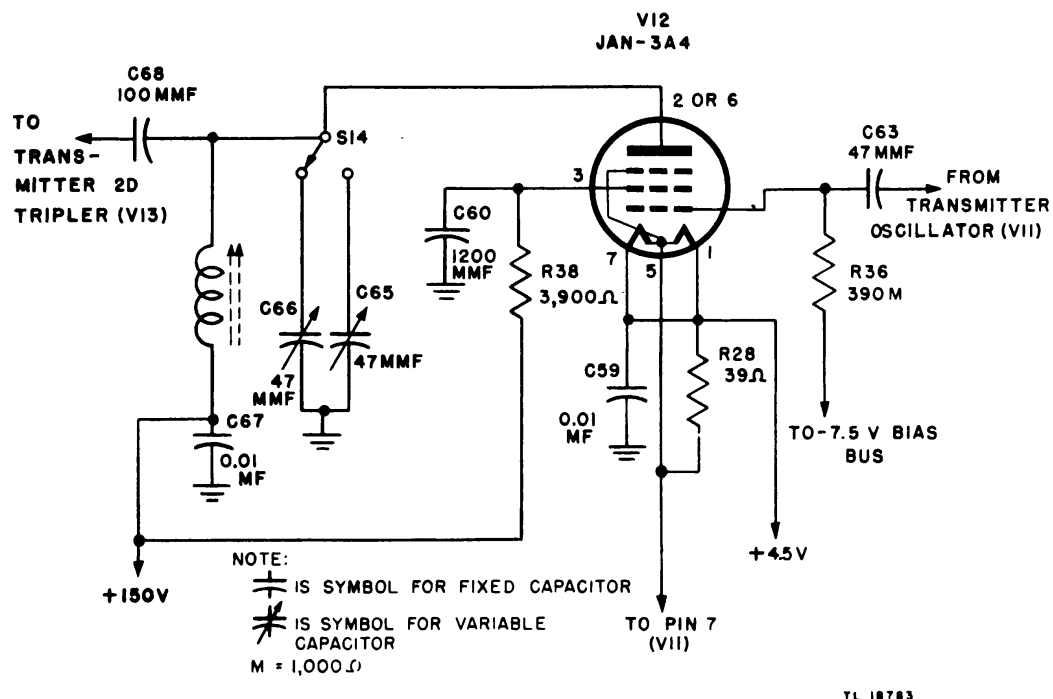

Figure 61. Transmitter first tripler.
a. The output from the transmitter oscillator is applied to the grid of Tube JAN-3A4, V12, through capacitor C63 (fig. 61). The grid is biased to -7.5 volts from the bias supply battery. An additional 1.5 volts is obtained from the voltage drop in the filament of tube V13. This bias prevents damage to the tube in case the excitation fails. The total fixed bias of -9 volts and the additional bias developed across grid resistor R36 causes the output of the tube to be greatly distorted, and therefore rich in harmonics.